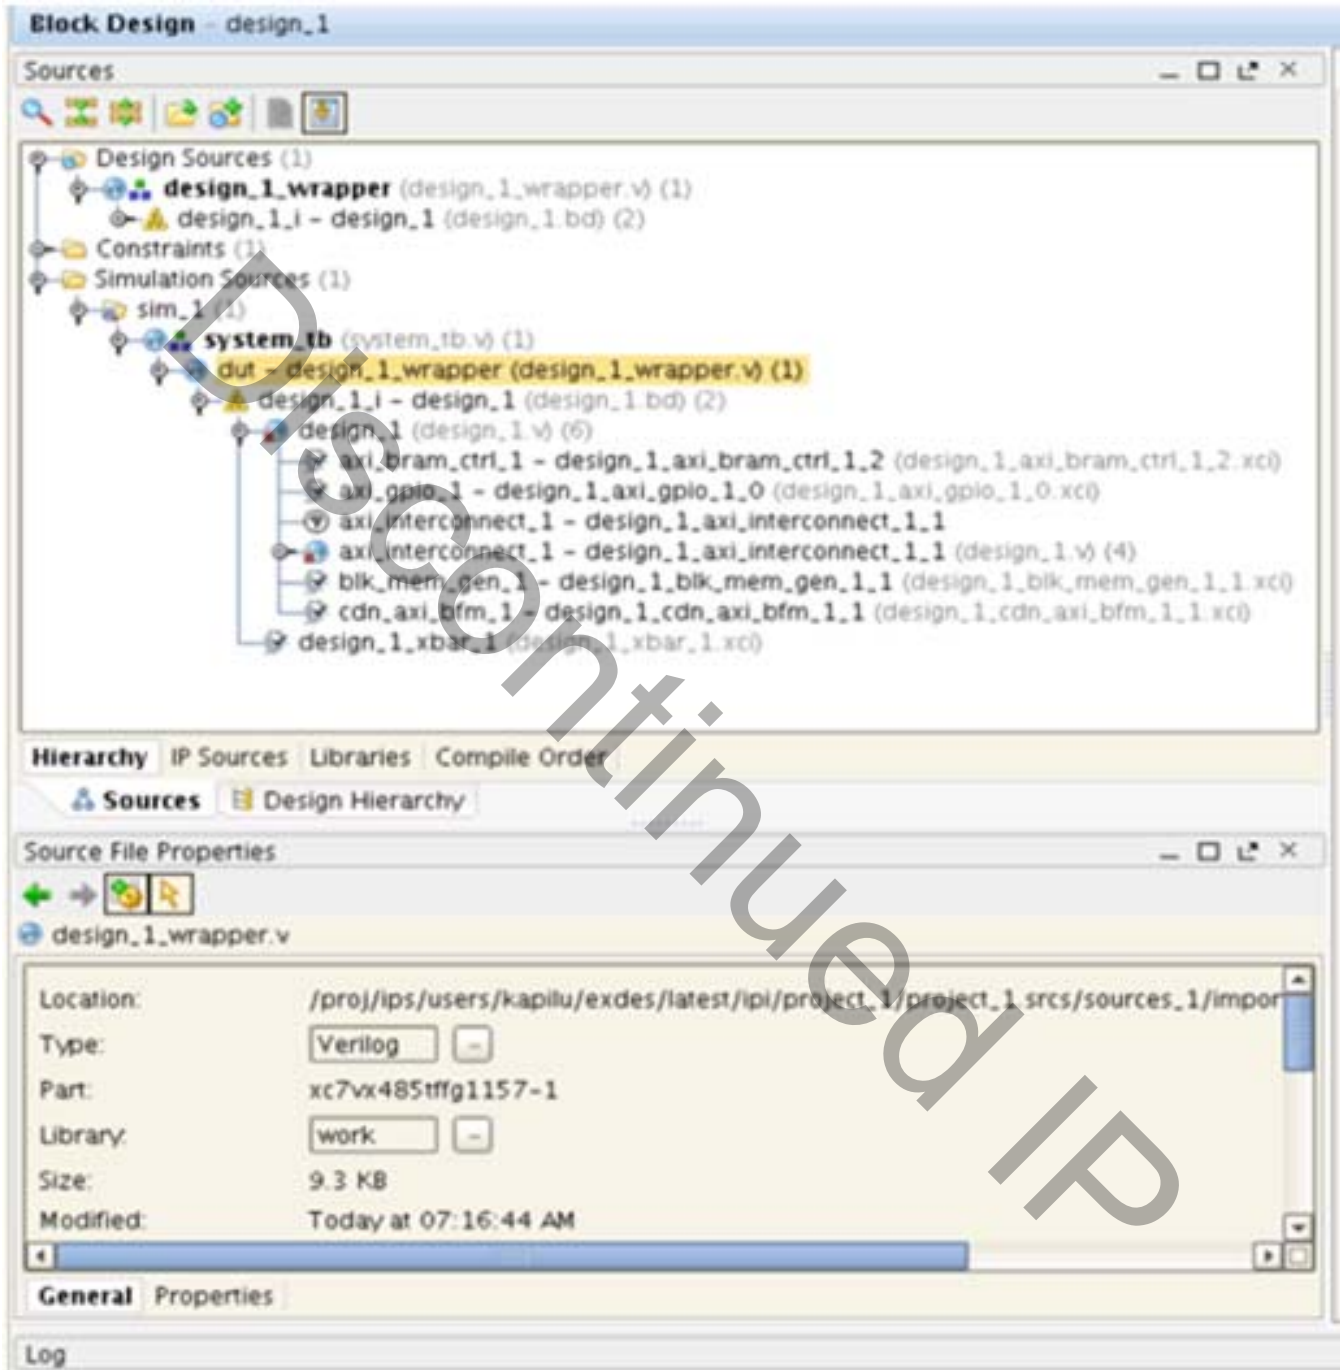

Figure 4-8: Complete Design Hierarchy
3. Figure 4-8 shows the complete hierarchy of the instances after the wrapper has been generated.